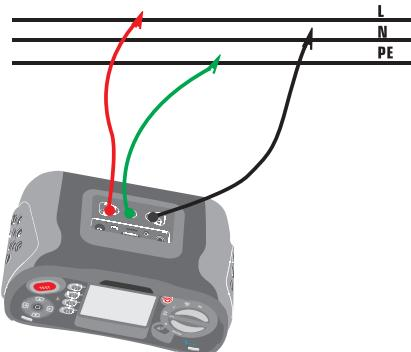

Figure 22 Phase Sequence-Test lead connection
- 3-Connect the test leads L1, L2, L3 as shown on the Figure 22